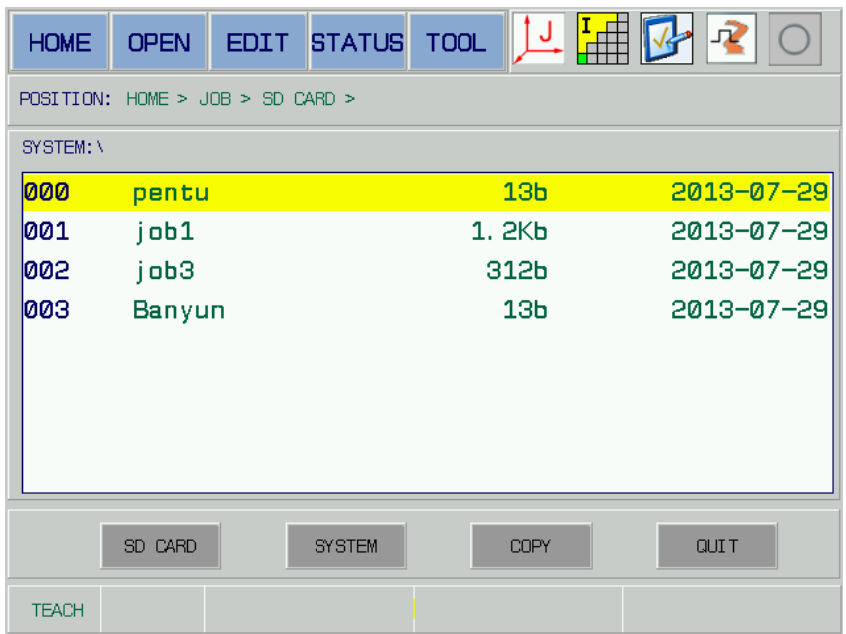

Fig. 5-22
2. Firstly, shift the cursor to the {JOB} menu by the [TAB] and left/right direction button, then open the {JOB} submenu by [SELECT], and then move the cursor to the {SD CARD} menu by up/down direction button, lastly open the {SD CARD} page by [SELECT]; refer to the Fig. 5-22.